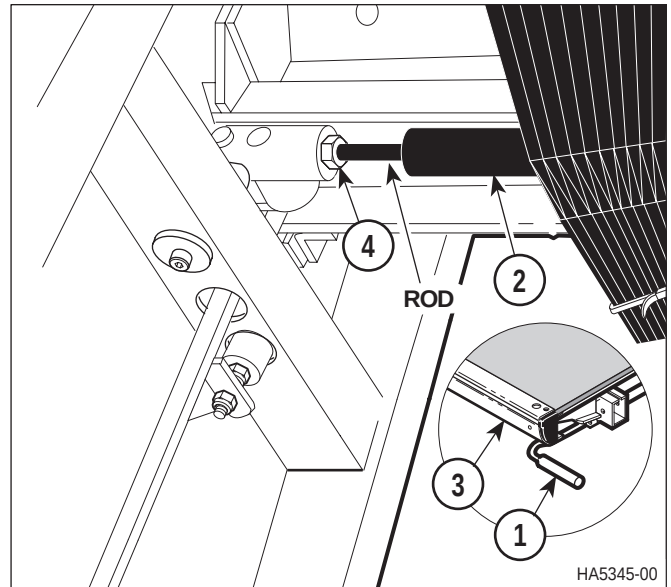

Figure 4-22. Trendelenburg Gas Spring Adjustment
- (1) Squeeze the Trendelenburg handle (1, Figure 4-22). The Trendelenburg gas spring (2) should release when the handle is squeezed - meaning the litter top (3) should be able to be raised and lowered. Release the Trendelenburg handle. Put pressure on one end of the litter top and then the other end. The litter top should not "drift" upward or downward.
- (2) Lower bellows for access (Refer to para 4.3).
- (3) Loosen jam nut (4).